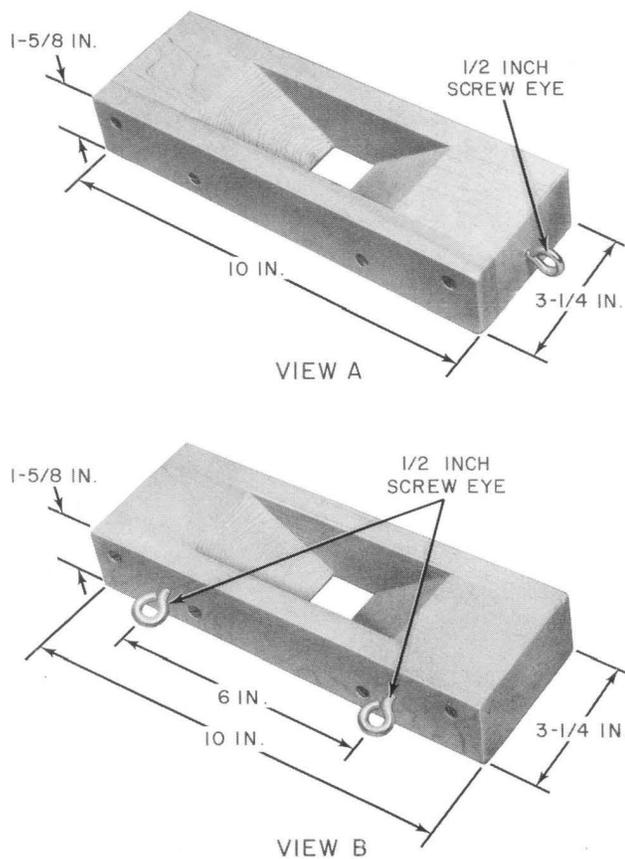

Fig. 2—Wood Ladder Block—ED-99543-70
Fig. 2. A V-shaped depression in the top accepts the wheel of the track supported rolling ladder. It is used to prevent movement of a rolling ladder not equipped with brakes.
4.03 The wooden block is shown in View A, Fig. 2. It comes equipped with a single screw eye so that it can be hung from a hook attached to the bottom center rear of the second step of a rolling ladder whenever the block is not used as shown in View A, Fig. 4.
4.04 As an alternate, the wood block can be modified with two screw eyes as shown in View B, Fig. 2, and when in use can be attached to the bottom rear of the second step as shown in View B, Fig. 4.